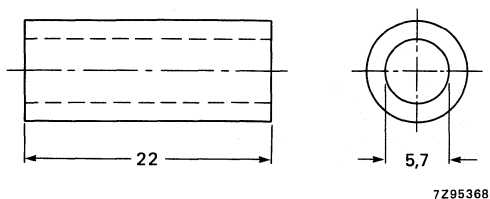

Fig. 2.
* The thermistors are required to pass through a control gauge dimensioned as per Fig. 2.